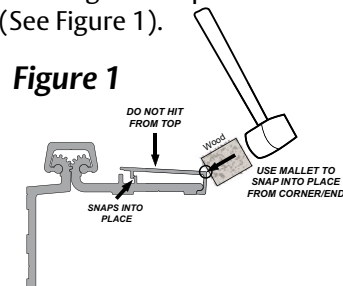

Figure 1
8. To complete the installation, secure the cover by hooking the edge away from hinge gears under the door leaf and then snap the other edge over using a rubber mallet on far side, working from top to bottom. Adjust so top of cover is flush with top of hinge (See Figure 1).